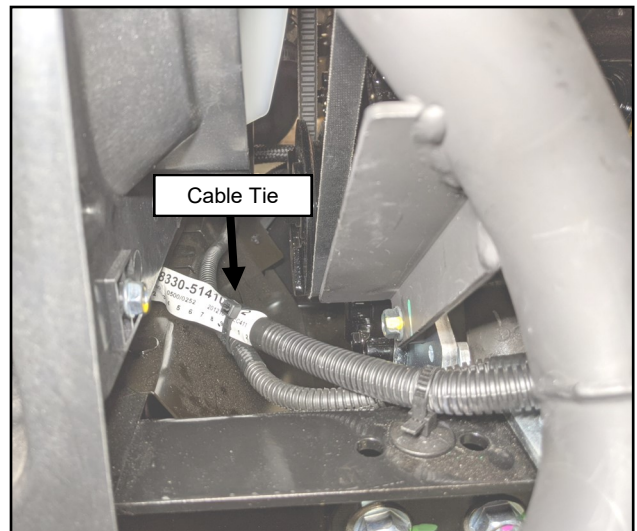

Fig. 19.3 (Route Wiring Harness In Front of Engine)
- 19.3** Route the wiring harness around the front of the engine and secure to vehicle wiring with a cable tie. See Figure 19.3. Ensure the new wire harness will not contact the engine fan, pulleys, or exhaust.